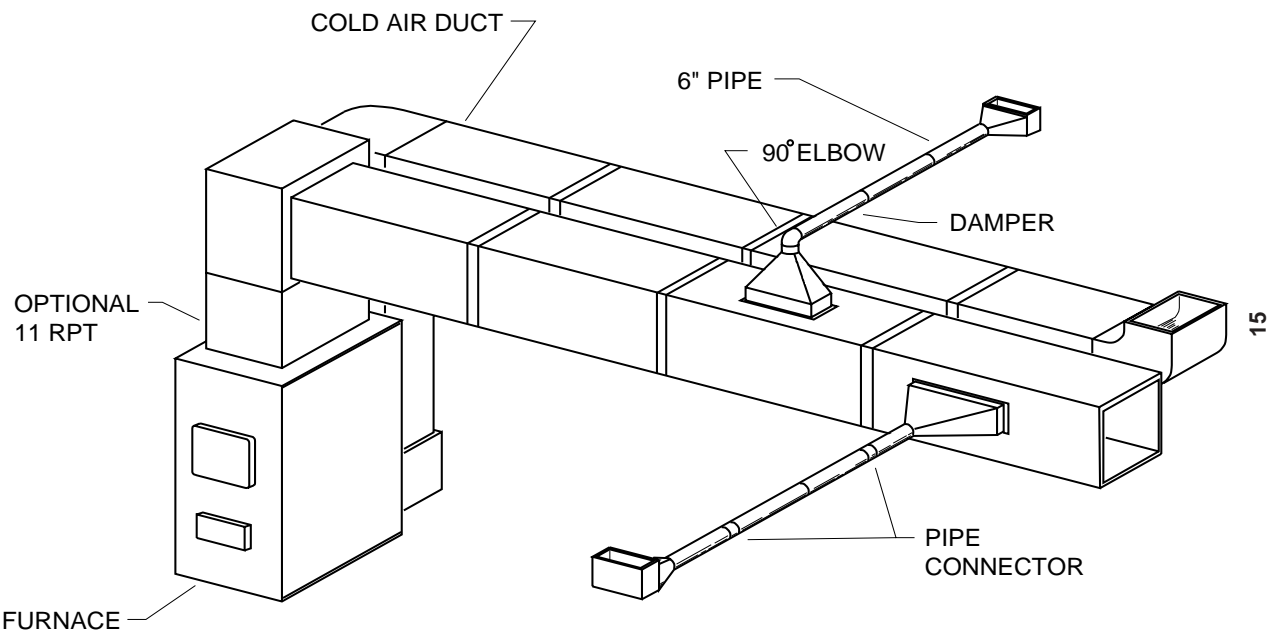

FIG. 14
e) Install 8" diameter heat pipe to plenum of the central hot air furnace. Use 26-gauge pipe and connectors (to be purchased separately). (See Fig. 14) If central air conditioning is installed in the plenum, install heat pipe above the air conditioning unit. Secure heat pipe connection with supports and sheet metal screws.
The electrical supply for operation of this fan control switch is to be obtained from same electrical supply as the central hot air heating system. (See Fig. 14) Follow the instructions of the wiring diagram (Fig. 15). Do not make connections across Limit Control in the furnace.